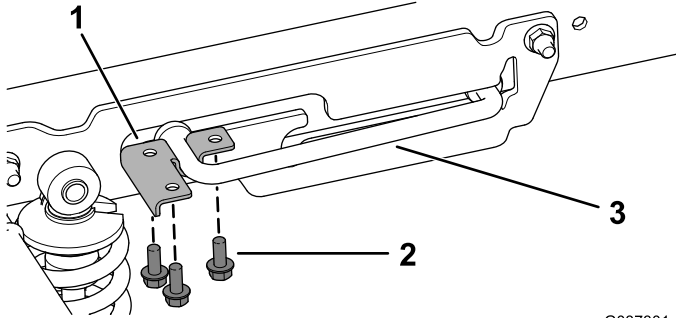

Figure 2
2. Remove the 3 flange-head screws (5/16 x 3/4 inch) and prop rod U bracket from the prop rod (Figure 2).